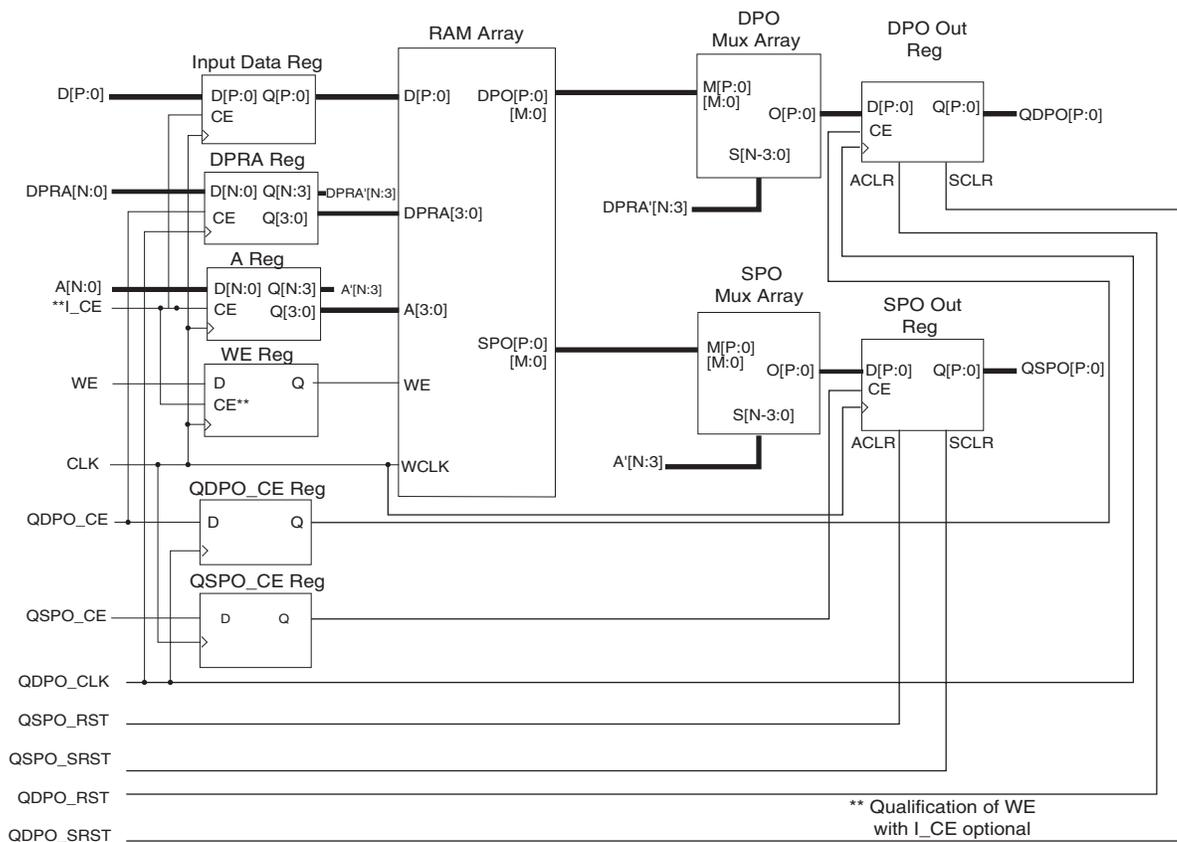

Figure 6: Dual-Port RAM Module Schematic
- **Dual-Port RAM.** Figure 6 illustrates a schematic of the structure of the dual-port RAM modules. The address and data registers are optional (controlled by the setting of the Input Options parameter). The dual-port read address register is optional (controlled by the setting of the Dual-Port Address parameter). Output registers for both output ports are also optional (controlled by the setting of the Output Options parameter). When registered outputs are selected, the two output ports can be clocked by the same or different clock signals and can have the same or different clock enables (based on the settings selected for the Common Output Clock and Common Output CE parameters). All resets and clock enables are optional. Note that the clock CLK is always required, because writes to the RAM are synchronous to that clock.